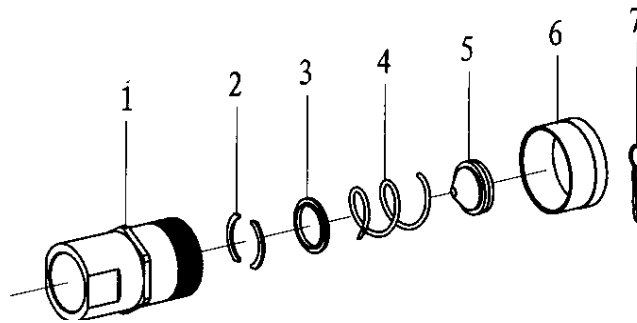

Fig. 7-12
12. Quick coupling (1 7/8-12UN) (Fig7-12, Table 12)